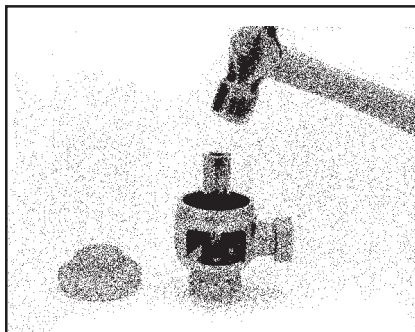

Fig. 2
3. Insert new press-fit seat adapter and force evenly into discharge orifice using installation tool or small section of $\frac{3}{8}$ " schedule 80 PVC pipe. (Be careful not to nick Smart Wafer seating surface.) (See Fig. 2)